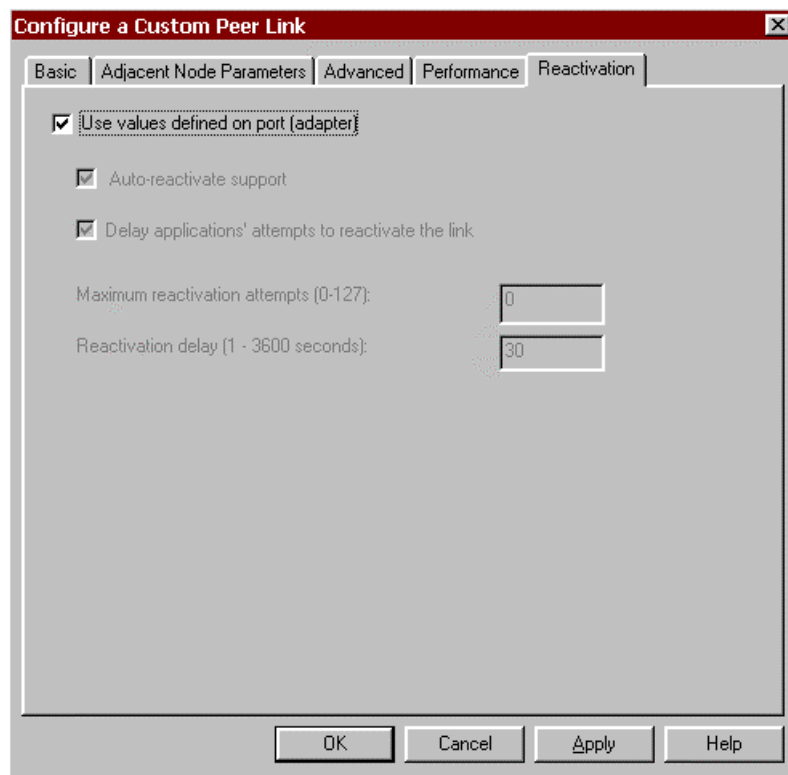

Figure 11-30. Peer Link Reactivation Parameters
6. If you are using NetWare for SAA version 4, click the **Reactivation** tab (Figure 11-30).